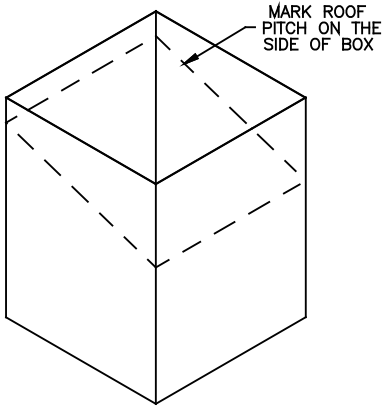

Figure 28
1. Mark a line on the side of the Cathedral Ceiling Support Box to correspond to the line of the roof pitch, as shown in (*Figure 28*).